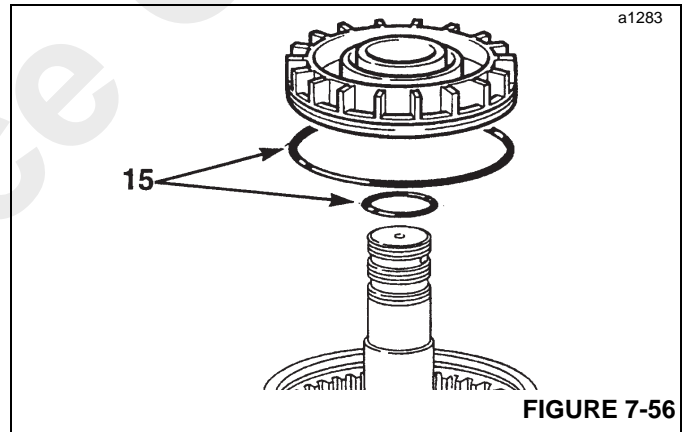

FIGURE 7-56
15. Remove and discard piston and shaft O-rings (15, Figure 7-56). Make sure the piston liner is secure. The liner must be tight on the piston.